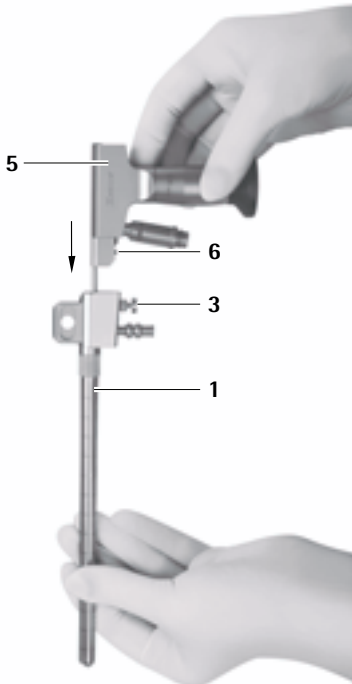

Fig. 2
- Secure the endoscope **5** in the MINOP inVent trocar **1**, see Fig. 2.